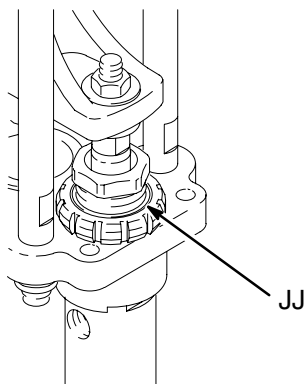

Fig. 13
Keep each displacement pump throat packing nut (JJ) filled with Graco ISO Pump Oil to help prevent fluid from drying on the displacement rod and damaging the pump packings. See Fig. 13.